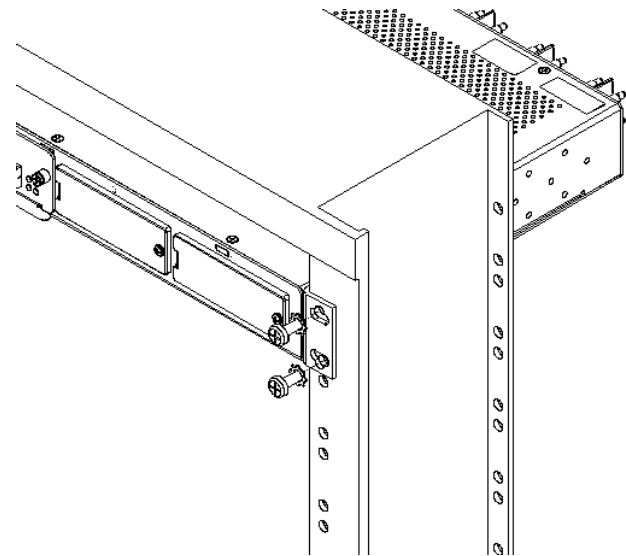

Fig. 5: Rack mounting
5. Locate an unused rack position and mount panel using the four thread-cutting screws provided, as shown in Fig. 5. Tighten the screws to 35 in/lb. (4.29 N•m).